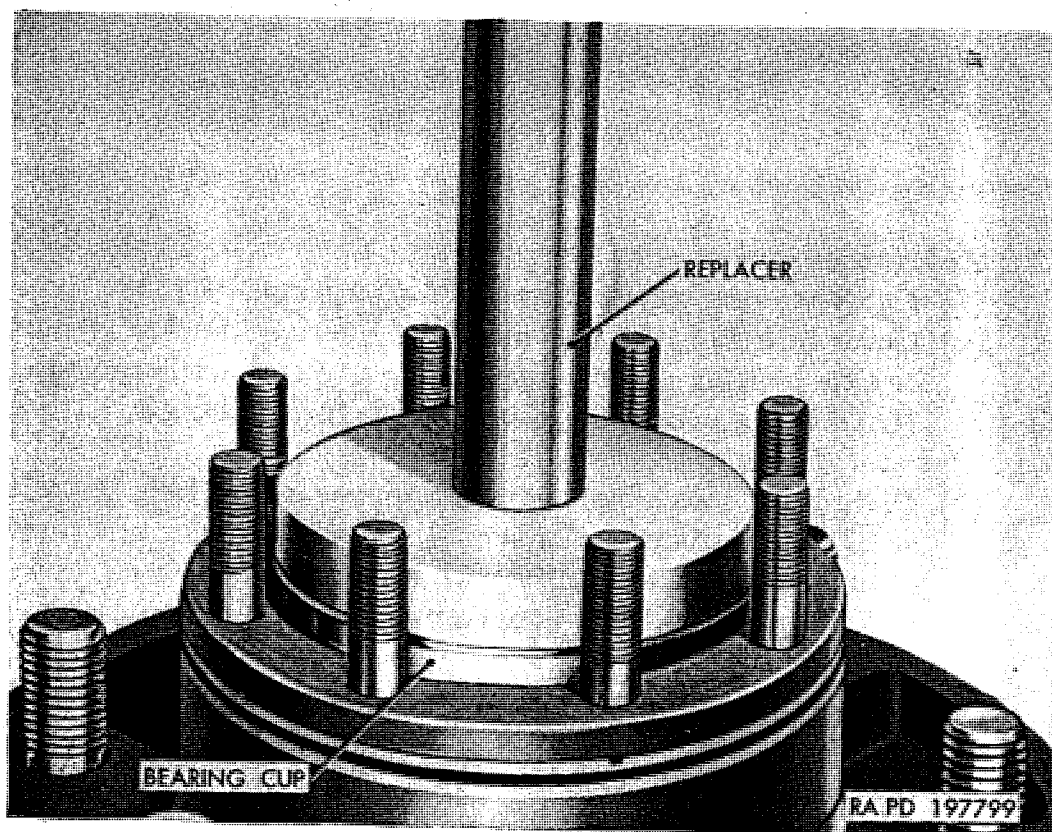

Figure 272. Installing bearing cups in hub with replacer B7950766.
- (1) Using a brass drift through opposite end of hub, drive out each bearing cup. Four knockout notches are provided in each bearing flange on inside of hub. Alternately drive on opposite sides of bearing cup to prevent cocking bearing cup and damaging machined bore in hub.
- (2) Install new bearing cups in hub, driving them into place with replacer B7950766 as shown in figure 272. Make sure